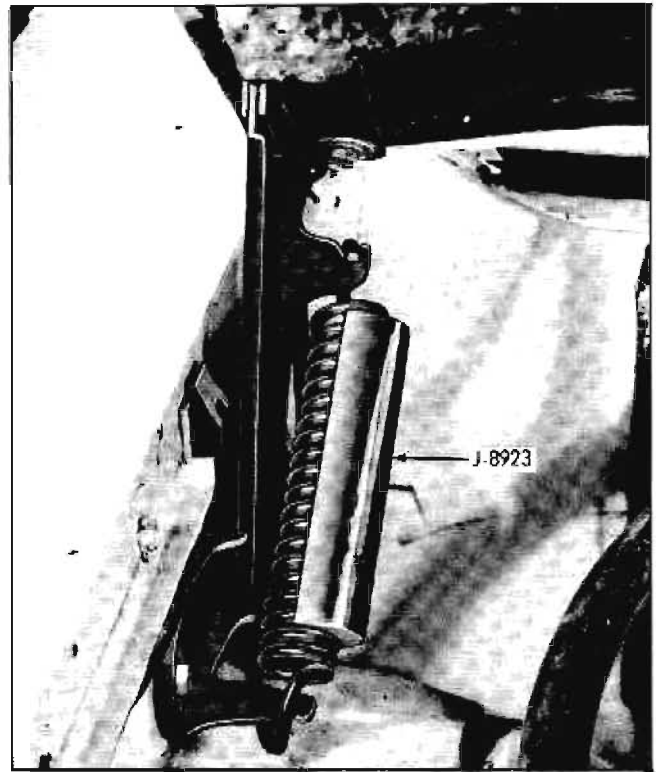

Fig. 10-12 Hood Spring Tool J-8923
2. Insert tool J-8923 on spring (Fig. 10-12).